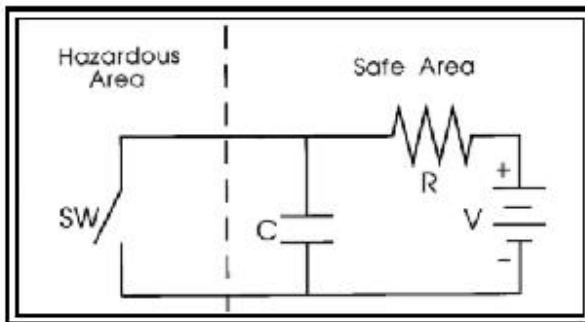

Figure 4-2: Closing of contacts in capacitive circuits.
When the switch in Figure 4-2 is open in a capacitive circuit, the capacitor charges to a voltage "V", and accumulates an energy equal to one-half the capacitance (C) times the square of the voltage.